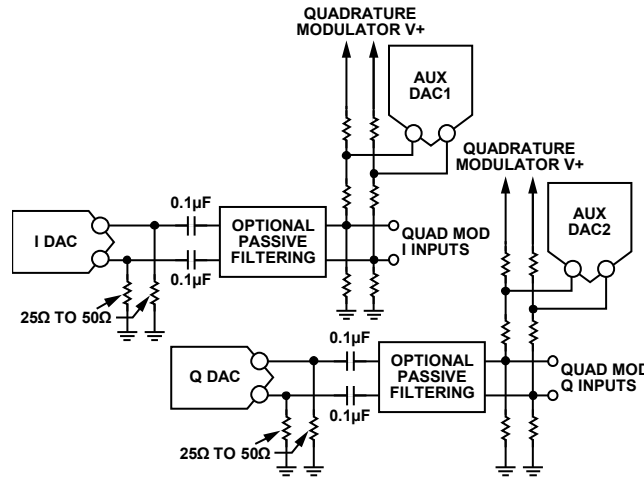
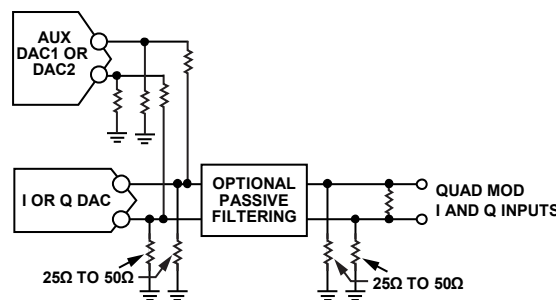

Figure 72. Typical Use of Auxiliary DACs AC Coupling to Quadrature Modulator
Figure 73. Typical Use of Auxiliary DACs DC Coupling to Quadrature Modulator with DC Shift
The auxiliary DACs can be used for local oscillator (LO) cancellation when the DAC output is followed by a quadrature modulator. This LO feedthrough is caused by the input referred dc offset voltage of the quadrature modulator (and the DAC output offset voltage mismatch) and can degrade system performance. Typical DAC-to-quadrature modulator interfaces are shown in Figure 72 and Figure 73. Often, the input common-mode voltage for the modulator is much higher than the output compliance range of the DAC, so that ac coupling or a dc level shift is necessary. If the required common-mode input voltage on the quadrature modulator matches that of the DAC, then the dc blocking capacitors in Figure 72 can be removed.
A low-pass or band-pass passive filter is recommended when spurious signals from the DAC (distortion and DAC images) at the quadrature modulator inputs can affect system performance. Placing the filter at the location shown in Figure 72 and Figure 73 allows easy design of the filter, as the source and load impedances can easily be designed close to 50 Ω.